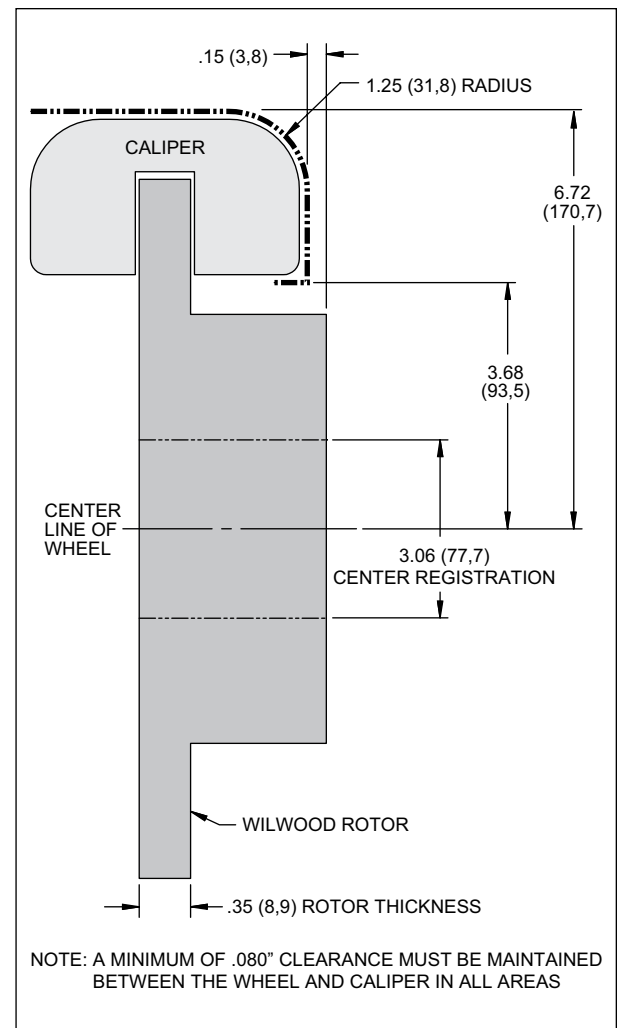

Figure 3. Wheel Clearance Diagram
- Review the Wheel Clearance Diagram (Figure 3, below) to verify that there is adequate clearance with the wheels you will be using with the installation.
- Verify your wheel clearance using Figure 3.